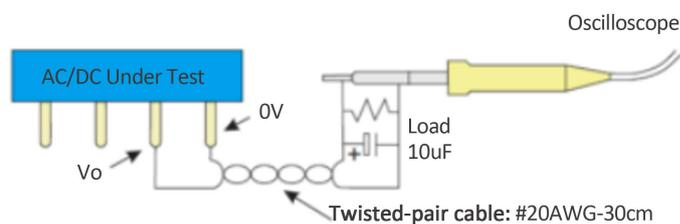
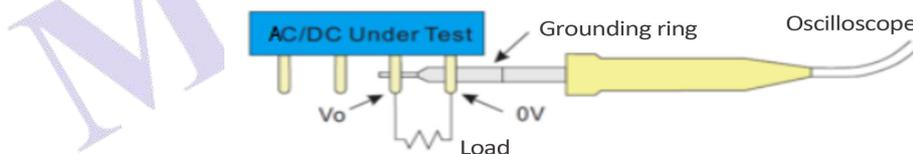

Figure 3-2: Twisted-pair Cable Measured Method
Figure 3-3: Contact Measuring Method
Step 2, use twisted-pair cable or contact measuring method. Shown as Figure 3-2 and Figure 3-3.